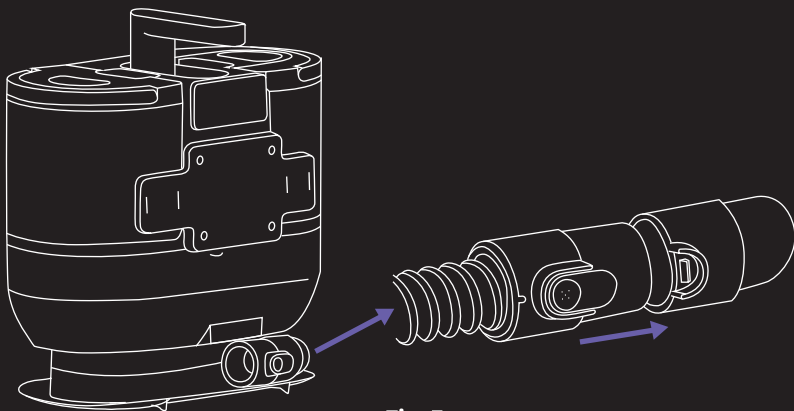

Fig. 3
4. To install the flexible hose, align the flexible hose latch with the main unit, push firmly until it clicks into place (Fig. 3).